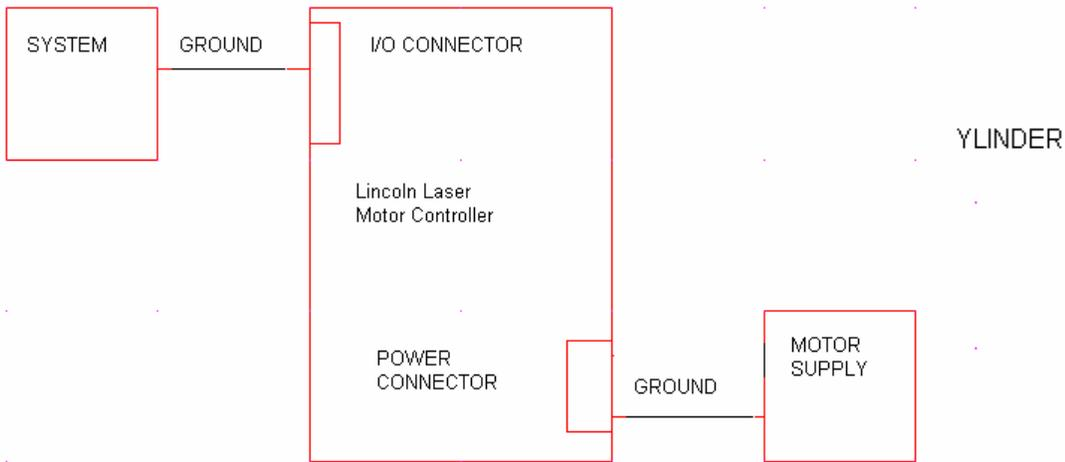

FIGURE 1
**Eliminate ground issues:** The high current motor supply ground return should be wired directly to the motor controller power supply pin. The customer control logic grounds should be tied through the I/O connector only. Never daisy chain power connections always use a star connection. See figure 1.